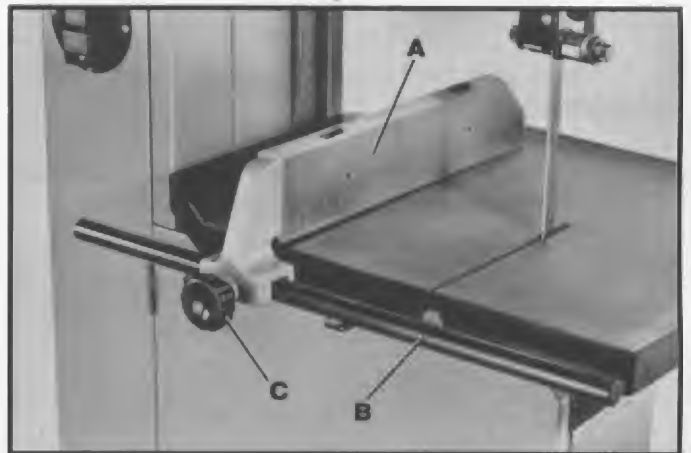

Fig. 22
The fence (A) Fig. 22, can be moved along the guide rail (B) by loosening fence locking knob (C), sliding the fence to the desired position and tightening lock knob (C). To adjust the fence for straight parallel cuts, proceed as follows:
1. Lock the fence (A) in position on the guide rail (B), as shown in Fig. 22, and measure the distance from the blade to the fence.